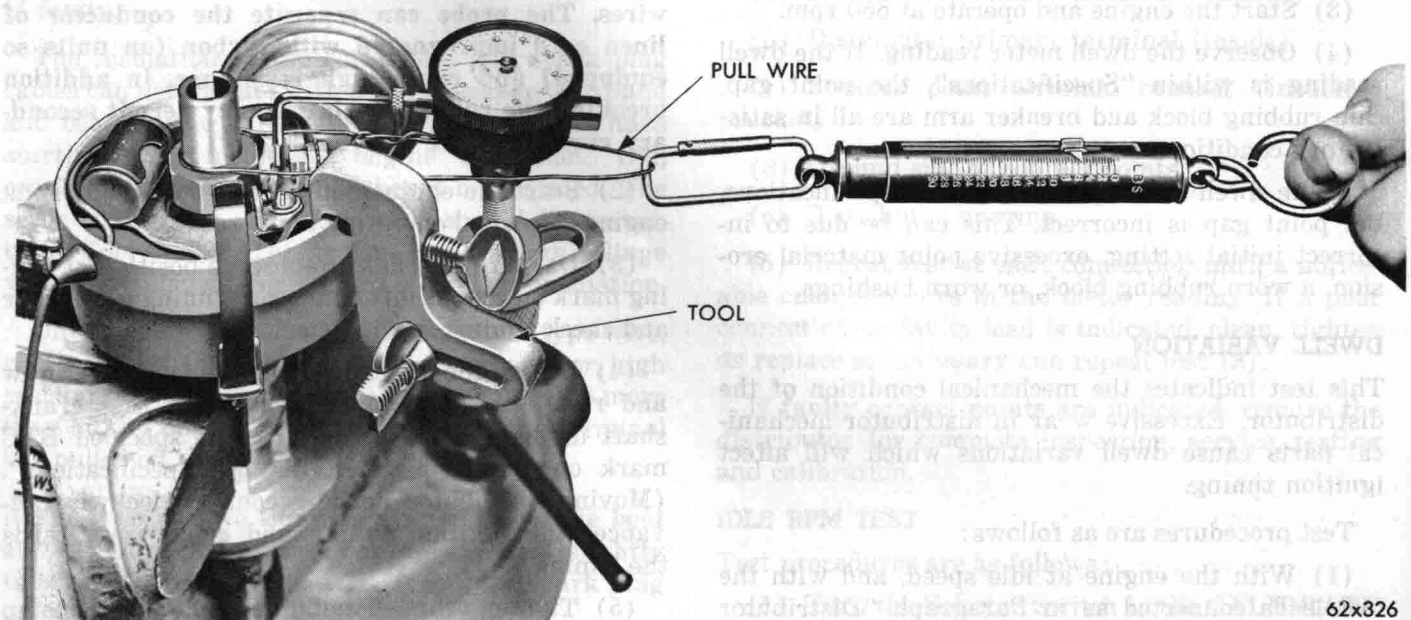

Fig. 61—Shaft and Bushing Wear Test
- (1) Remove the distributor rotor.
- (2) Disconnect the primary lead wire at the distributor terminal.
- (3) Clamp the distributor housing lightly in a vise equipped with soft jaws and attach the dial indicator to the body of the distributor with the indicator plunger arm resting against the movable breaker arm at the rubbing block and with the rubbing block of the breaker arm on the highest point of the cam lobe (Fig. 61).
- (4) Place one end of a wire loop around the top of the distributor shaft. Hook a spring scale in the other end of the wire loop and pull on a line with the plunger of the indicator gauge. Be sure the wire loop on shaft end is down on the shaft to insure a straight pull and also that the wire loop does not interfere with the indicator or holding bracket.